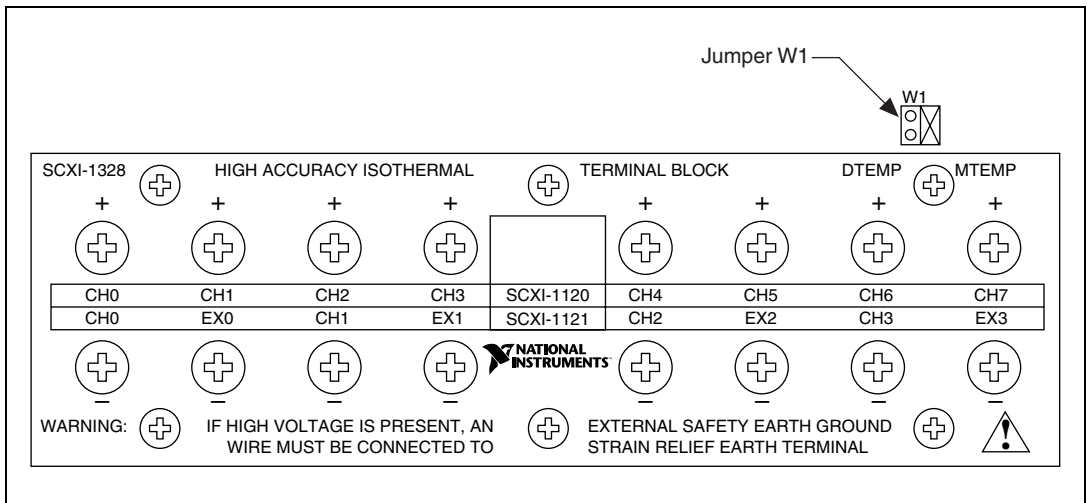

Figure 2. Location of Jumper W1 on the SCXI-1328 Terminal Block
- a. Refer to Figure 2 to locate jumper W1 and verify that MTEMP is jumpered on your terminal block.